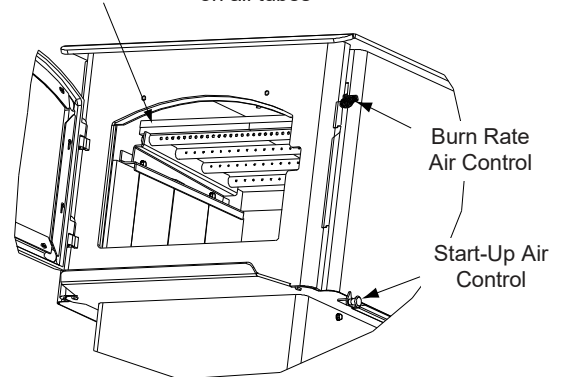
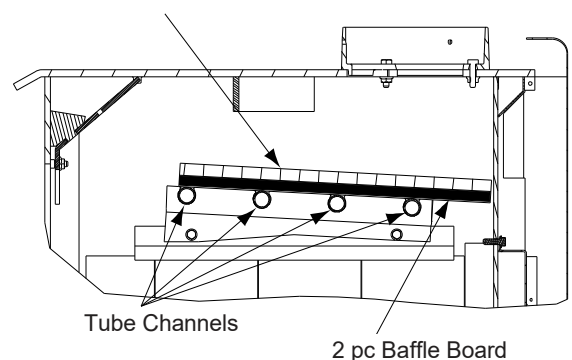

Figure 13.1
Figure 13.2
The next stage of burning, the secondary stage, is the period when the wood gives off flammable gases which burn above the fuel with bright flames. During this stage of burning it is very important that the flames be maintained and not allowed to go out. This will ensure the cleanest possible fire. If the flames tend to go out, it is set too low for your burning conditions. The air control located at the upper right hand corner is used to adjust for burn rates. This is called the Burn Rate Air Control (**Figure 13.1 on page 13**).
1. Confirm the baffle is correctly positioned. It should be even with the front tube and resting on all tubes (**Figure 13.1 and Figure 13.2**).